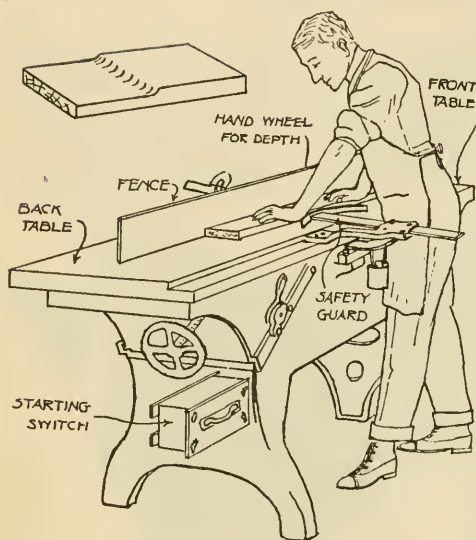
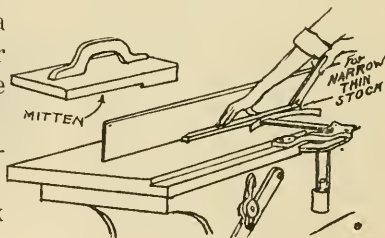
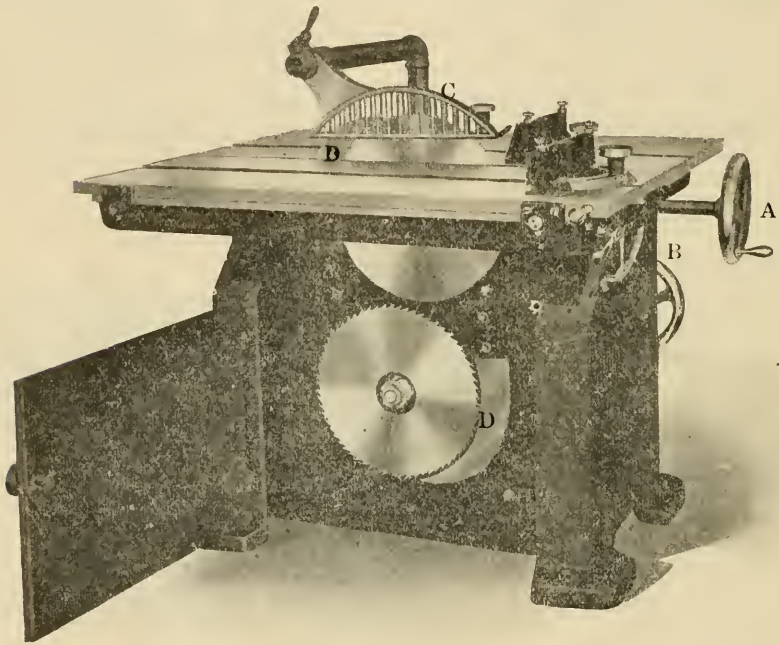

FIG. 6—WORKING FACE
FIG. 7—USING A PUSH STICK FOR NARROW STOCK.
FIG. 12--DOUBLE ARBOR SAW WITH GUARD and SPLITTERS
of a surface and to plane an edge at right angles to that face. It is also used for planing glue joints and dadoing. Fig. 6, shows a jointer with parts labeled.
8. Tables-- The tables, Figure 6, are mounted in such a way that they can be drawn from the cutter head on a level, independently of the device for raising and lowering them. The best tables are provided with steel lips located close to the cylinder head. When the lips are of the same material as the other parts of the table they are not as serviceable. The front table, or the one at which the operator stands when he begins to run a piece of wood over the jointer, is the one that determines the size of the cut to be made on a piece of stock. The most desirable type is the one that has a hand wheel, Figure 6, on the back side of the table and permits the operator to stand in front of the machine while adjusting the depth of the cut. With the old type it is necessary to get down and reach below the machine to make this adjustment.
9. Operation-- Assume the position in Figure 6 and be careful at all times that you do not slip, which may result in a bad accident to hands or fingers. A piece of rubber matting nailed to the floor is a great aid to easier and safer operation. Cleats are sometimes nailed to the floor when matting is not available, but are an inconvenience when sweeping.
10. Working Face-- To plane a working face assume the position shown in Fig. 6. The piece to be planed is placed on the front table after being certain that the gauge is set for the proper thickness and pushed slowly over the revolving cylinder, being careful at all
times to keep the stock firmly on the table. This may be accomplished with both hands on the surface of the board being planed. A precaution must always be taken, especially with beginning students by using the wooden mitten shown in the top of Fig. 7. This is placed in the back end of the piece which is being shoved over the jointer. Again referring to Fig. 6, it will readily be seen how easily it is to drop the right hand down upon the revolving cylinder thus causing a very serious accident, which can be avoided by the use of the mitten and push
stick, which is also shown in Fig. 7. Be sure at all times to use the safety guard. There is only one exception to this which will be noted later. Always run the stock so that the knife will cut with the grain.
11. Jointing An Edge-- Planing a working edge on the jointer is similar to squaring up a working edge at the bench. The piece is set against the fence and fed very slowly in a manner similar to that shown in making a working face Fig. 6. If the stock is wide so that the top edge comes above the fence and fed very slowly it will not be necessary to use the mitten or push stick. It is best always to feed the stock so that it will
The Universal saw, Fig. 12, has a hand wheel "A" for revolving the two saw arbors making it possible to change very quickly from rip to cross cut saw or vice versa, and for raising or lowering the saw which determines the distances it projects above the saw table while in use. Remember that the saw should **never project farther** above the table than is absolutely necessary for the thickness of stock being cut.
The guard "C" and splitter "D" also shown in Fig. 12 are necessary as "Safety Devices." The guard should be used at all times when possible. The splitter is a farther safeguard because it keeps the stock from pinching after it has passed the saw.
the micrometer adjustment. Notice the locating holes in the top of the table for adjusting the fence to cut very wide stock. (3) See that the clamp on the tilting hand wheel, "B" in Fig. 12 is set, and if you are using the Double Arbor Saw be sure that the clamp under the table is set so that the top will not roll. (4) Last but not least see that the guard and splitter are in place. You are now ready to shove the stock over the saw. When the end of the board starts over the saw make sure that the edge is against the fence and you will have no difficulty in ripping parallel with the edge and getting the exact width of stock for which the fence has been set. As you push the board over the saw, stand either to the right or to the left of it. Should the board twist in any way and become caught in the saw you could not stop it or get out of the way in time to prevent a serious accident. When the stock is narrow, or it becomes necessary for your hands to come near the saw use a push stick as shown in Fig. 7, while operating the jointer.